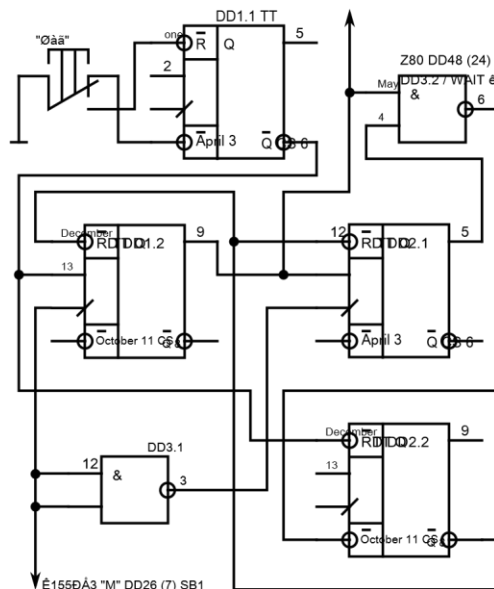

Fig. 7: Scheme for stepping mode CPU Z80
If you do not have an oscilloscope, you can check the operation of the processing unit using an ordinary tester. To do this, you must collect a diagram is shown in Figure 7. This scheme allows you to organize incremental mode Z80 microprocessor. As a result, you may see many signals in the static mode. This scheme can be assembled on a circuit board, making connections insulated wires. To connect it to the motherboard is necessary to cut the bond connecting D26 (1) and D48 (24), and in this regard, the gap soldered circuit board terminals.